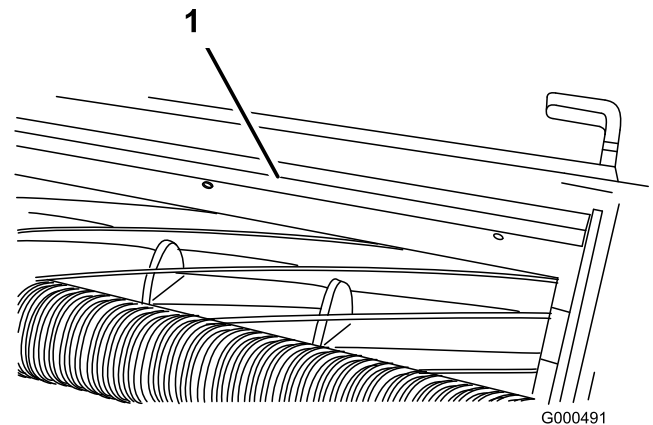

Figure 57
1. Loosen screws securing top bar (Figure 57) to cutting unit.